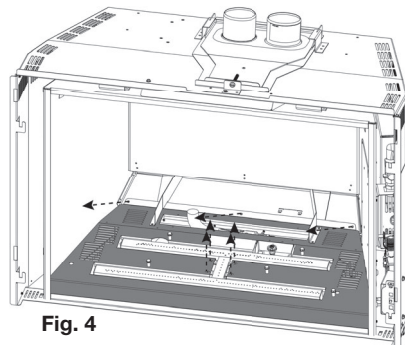

Fig. 4
- 5. Remove the 7 screws securing the lower burner support in place. Lift the lower burner support up and out (Fig. 4).